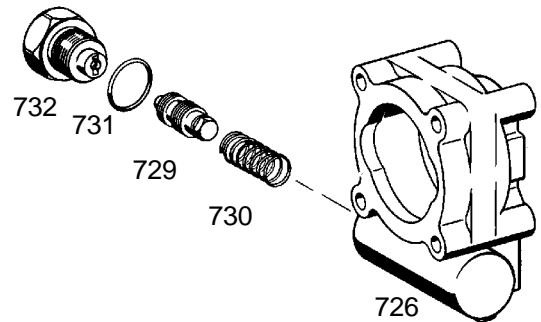

Fig. 32
Fit compression spring (730) and valve spool (729) into the cover (726) (**Fig. 32**).